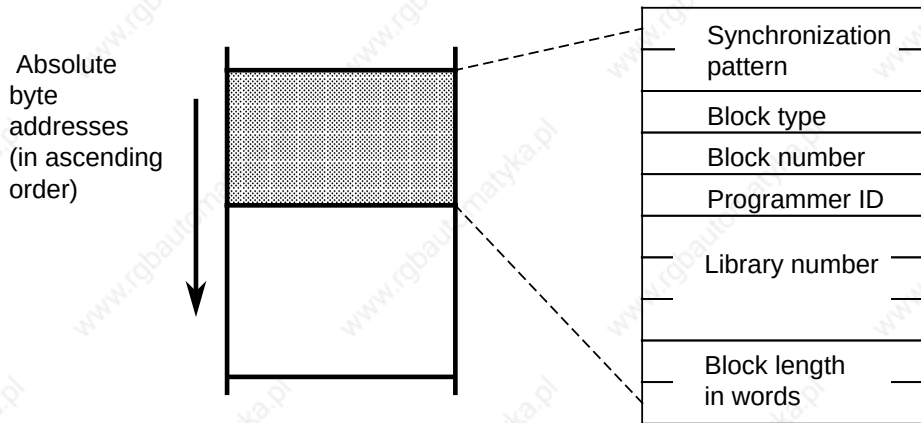

**Figure 7-2. Structure of a Block Header**
- Block header as for other blocks (five words) (see Figure 7-2)